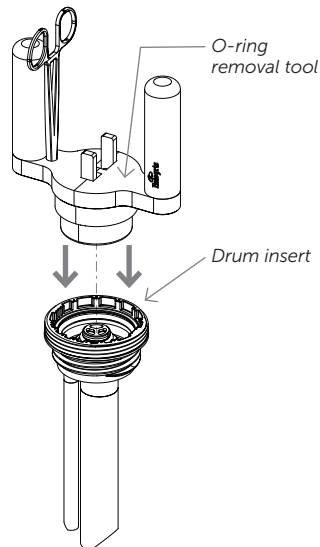

Figure 1.
2. Grasp the o-ring removal tool with two hands and push directly down into the drum insert cavity (see Figure 1). Make sure the o-ring removal tool is fully engaged in the drum insert. It is fully engaged when it reaches a stop.